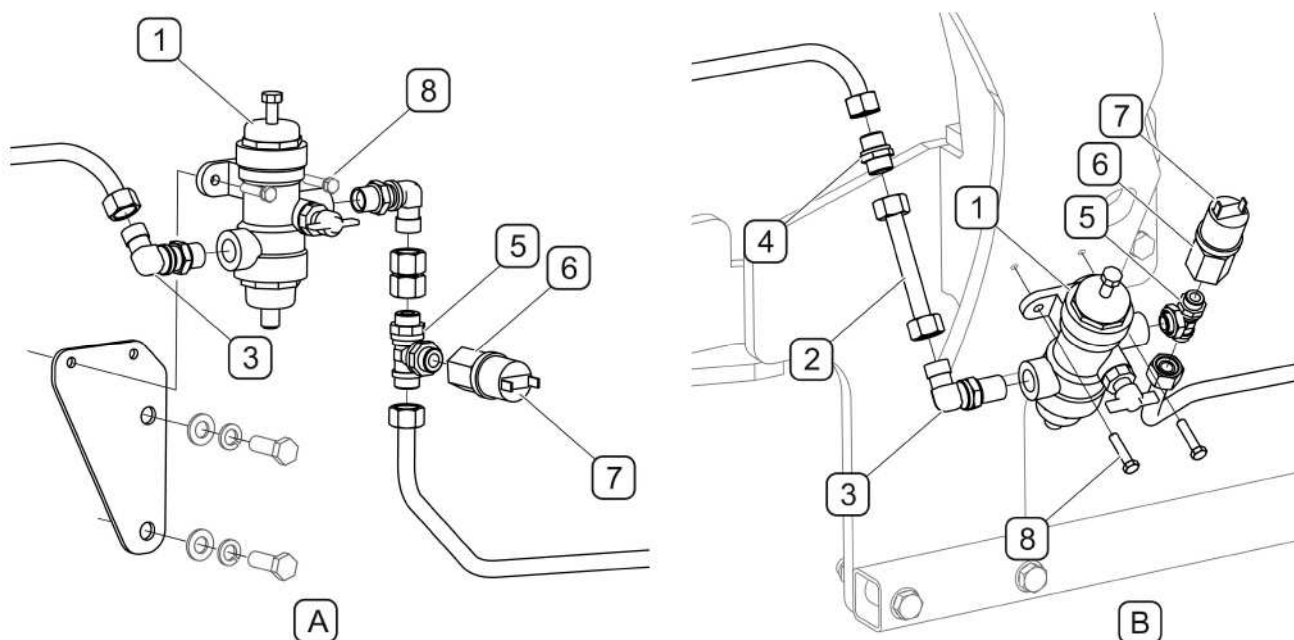

FIG. 4.13A Modification of the pneumatic system in Kioti DK551C tractors
In the Kioti DK551C tractors the previously removed air pressure regulator is mounted directly onto the left bracket of support frame. Connect the pneumatic system components (FIG. 4.13A) using an additional line (2) and connector body (4). After completing above actions check seal tightness of pneumatic system.